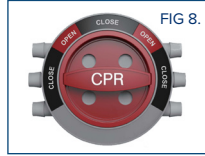

FIG 8.
- To re-inflate, turn the CPR dial to the closed position (FIG 8 overleaf).